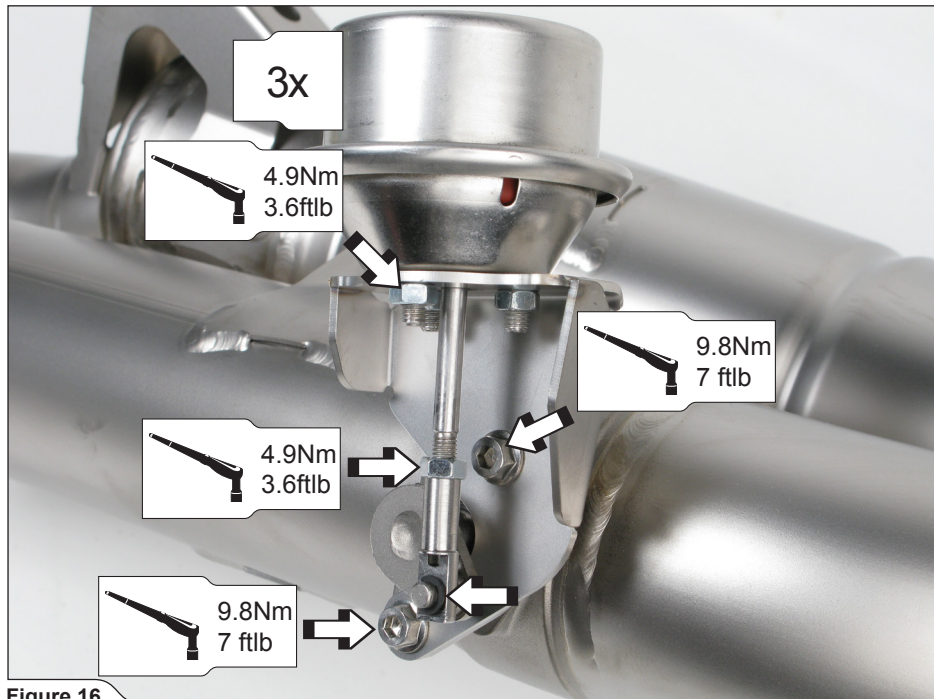

Figure 16
3. For V6 and V8-non turbo vehicle models with Akrapovič optional wireless kit only: assemble the Akrapovič actuators' brackets and vacuum actuators onto exhaust valves, using bolts, nuts, angular junctions and snap rings from Akrapovič installation kit (**Figure 16**).